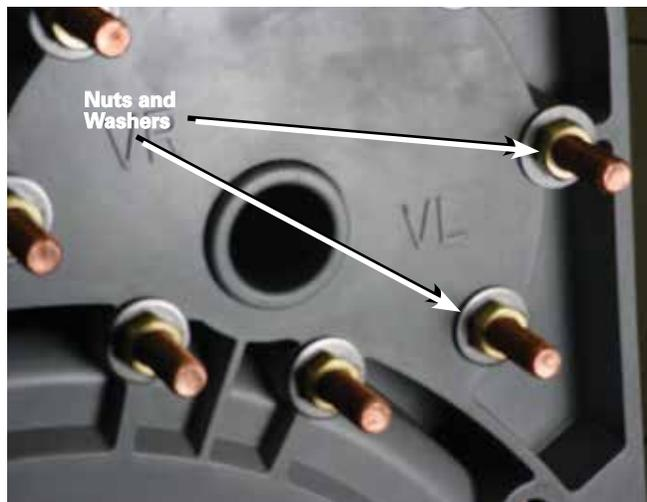

Figure 6. VL reversing stationary hardware.
6. Place a flat washer and nut on each stud. Use a 9/16" socket and ratchet to tighten the nuts on each contact stud. Using a torque wrench tighten the nuts to a torque of 80–90 in-lbs (9.0–10.2 Nm). See Figures 6.